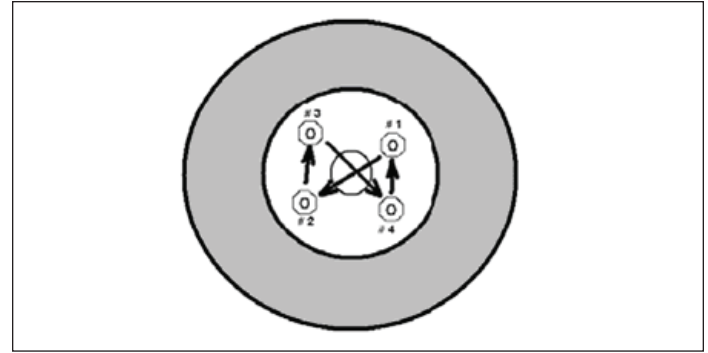

Figure 5-3. Lug Nut Tightening Pattern
8. Reinstall rear wheel/tire assembly and four lug nuts. Engage brake and tighten lug nuts in a criss-cross pattern to a maximum 65-70 ft. lbs. (23-25 Nm) (Figure 5-3). Repeat for other rear wheel. Recheck lug nut torque with vehicle on the ground.